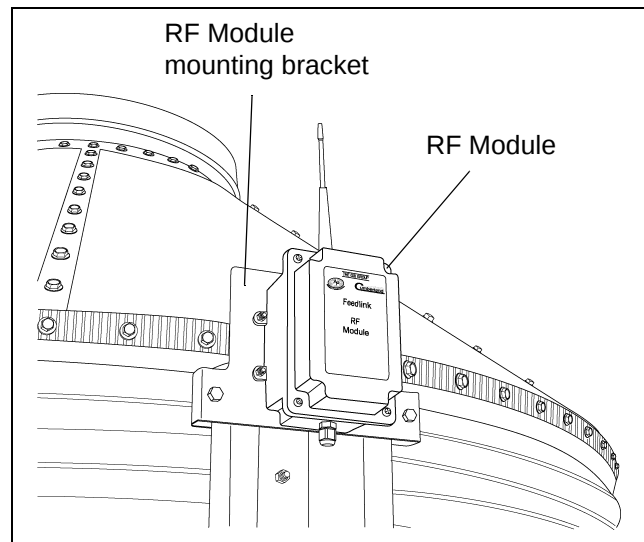

Figure 9A Mounted RF module on bin leg using mounting bracket.
3. Slide RF module onto mounting bracket threaded studs and attach using the (4) #10 nuts provided. (See Figure 9A.)